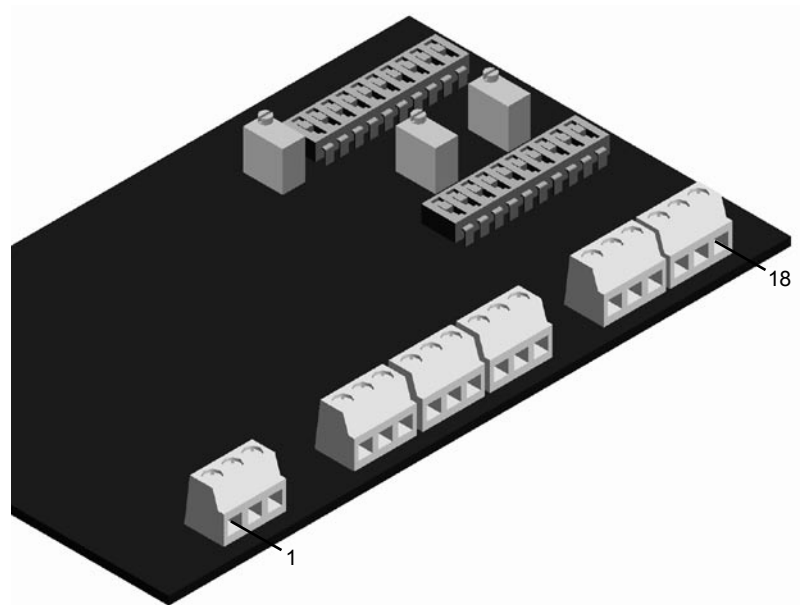

Fig. 5-8 : Connecting terminals
- Connect a voltmeter between the terminals 4 and 5 (refer to figure 5-8 for the terminal location on the circuit board)
- Connect a voltmeter between the terminals 6 and 7 for a voltage output or an amperemeter between the terminals 7 and 8 for a current output (refer to figure 5-8 for the terminal location on the circuit board).